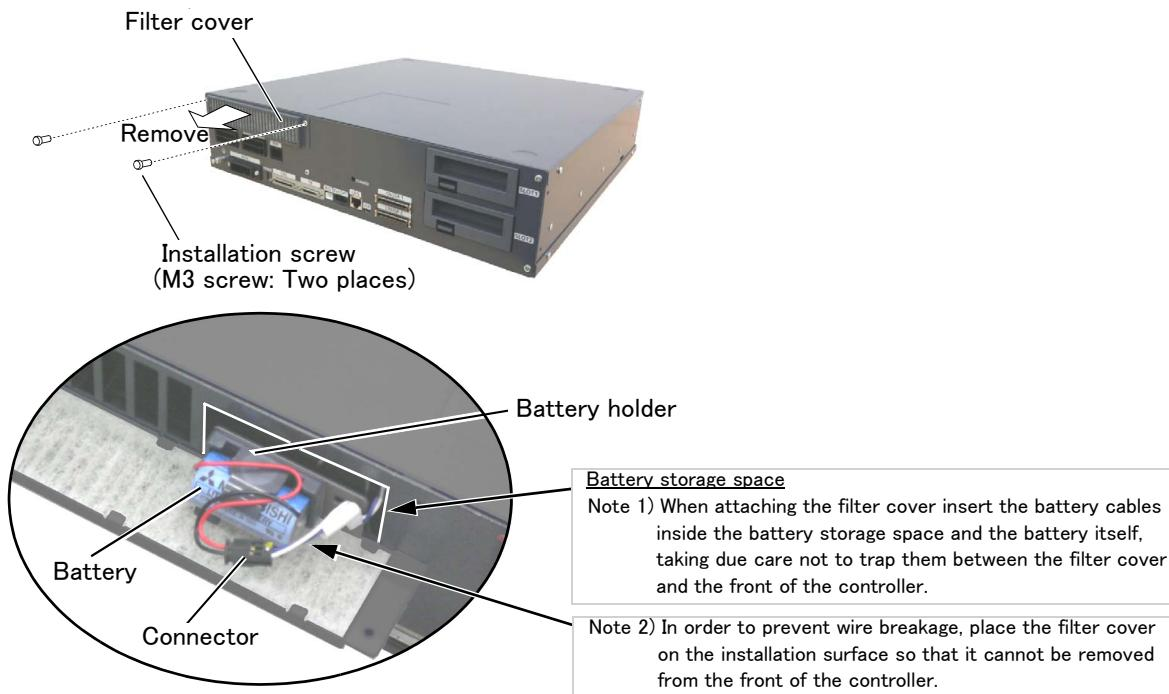

Fig. 5-3 : Exchange of the battery (CR751 controller)
- 4) Fix new batteries into the battery holder. As shown in Fig. 5-3, fix the cables that come out of the battery so that they are not trapped by the side of the filter.